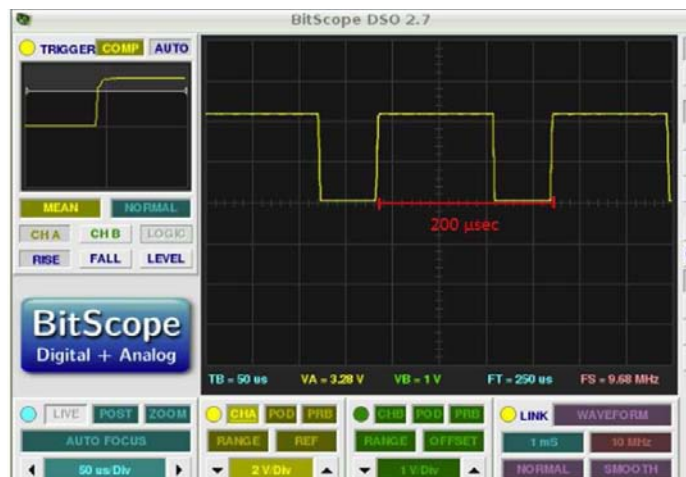

Fig. 8: Output of the clock generator circuit
Look at the main screen of the BitScope DSO software (1) and you should see a similar square wave, as shown in Fig. 8.
If your clock generator is operational you may try to find out the frequency with which your clock generator is running. For the answer you should look at Fig. 8 (or the measurement on your own screen) and remember what I wrote about measuring frequencies in Part 1 last month. As an aid, I have drawn a line in red on the output diagram showing that the period of the square wave is 200 μ sec.